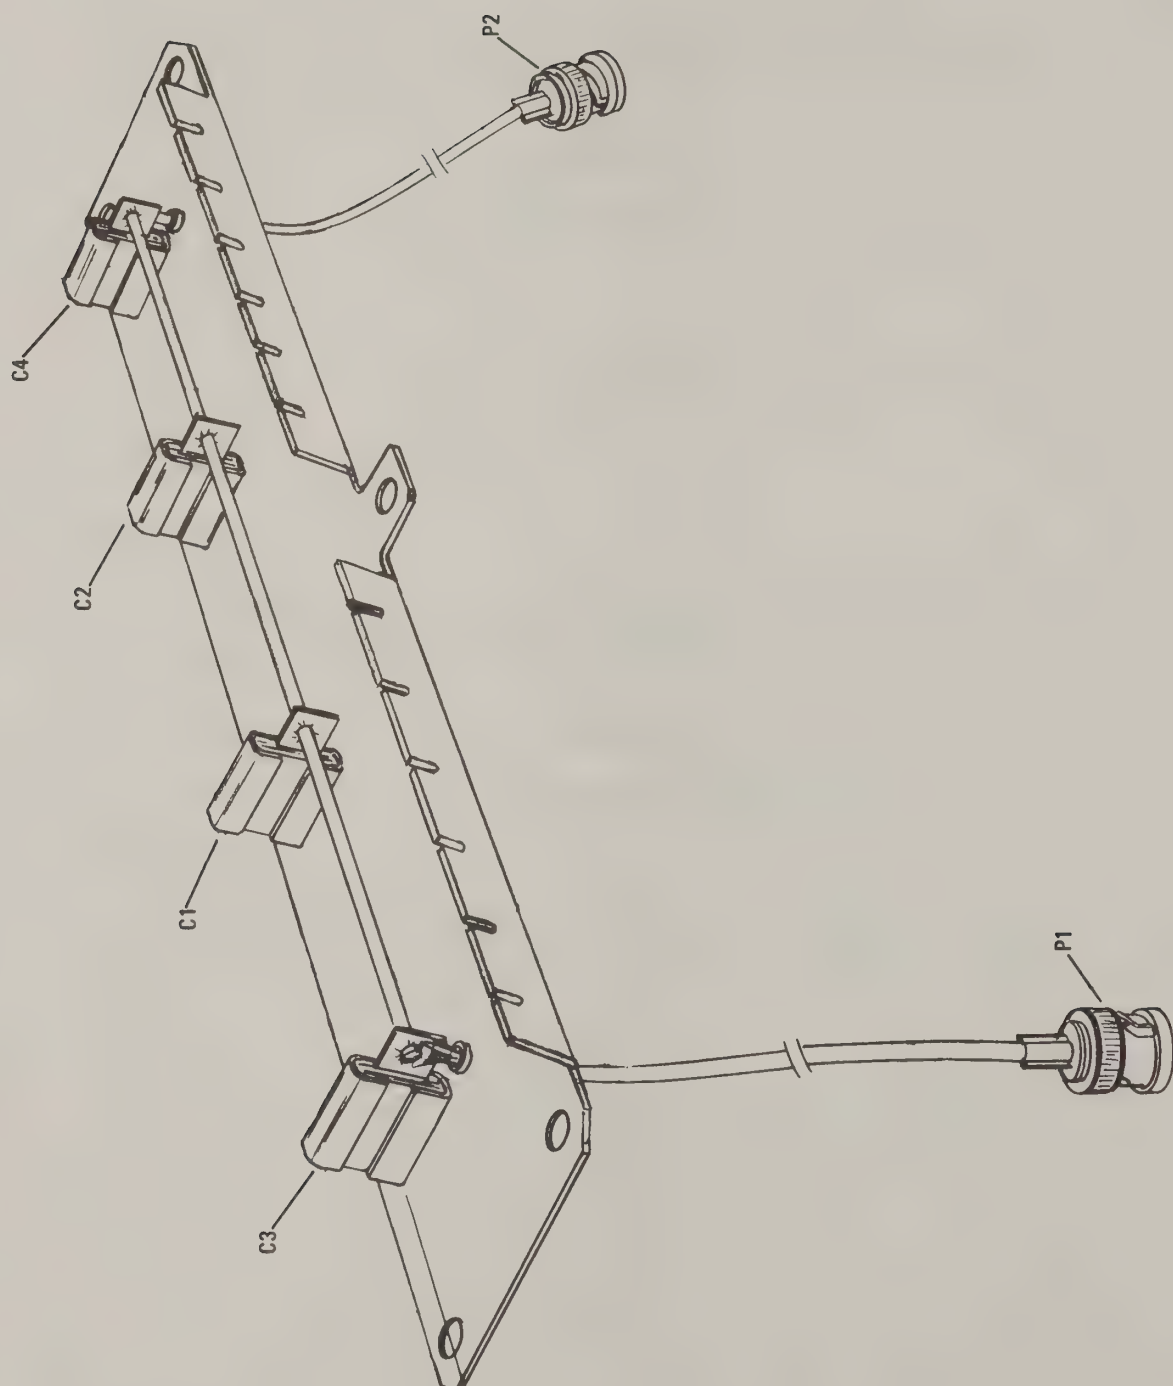

Figure 4. UHF Low-Pass Filter Module, Component Location Diagram
6.01 The parts list information for both UHF and VHF Low-Pass Filter Modules is shown in table 3, while figure 4 gives UHF Low-Pass Filter Module component location information